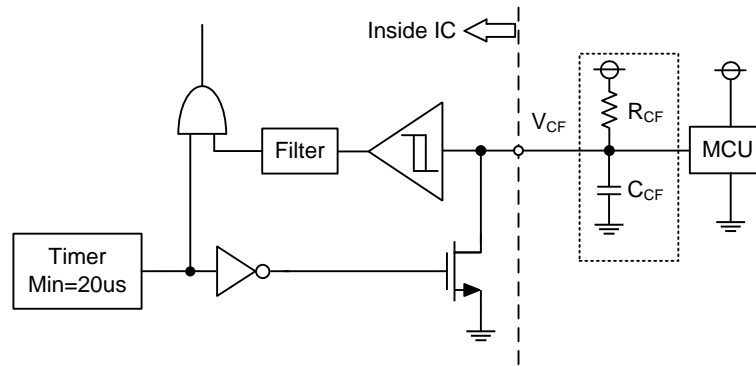

Figure 4. V_{CF} Output Circuit
- (1) If the control GND is connected with the power GND by common broad pattern, it may cause malfunction by power GND fluctuation. It is recommended to connect the control GND and power GND at a single point (N1), near the terminal of the shunt resistor.
- (2) There are two COM pins in the IPM but it is recommended to only use the (15) COM pin to minimize SC detection noise.
- (3) A zener diode D1 (24V/1W) is recommended between each pair of control supply pins to prevent surge destruction.
- (4) Prevention of surge destruction can further be improved by placing the bus capacitor as close to pin P and N1 as possible. Generally a 0.1-0.22 μ F snubber capacitor C3 between the P-N1 terminals is recommended.
- (5) Selection of the R1*C4 filter components for short-circuit protection is recommended to have tight tolerance, and is temperature-compensated type. The R1*C4 time constant should be set such that SC current is shut down within 2 μ s; (typically 1.5-2 μ s). R1 and C4 should be placed as close as possible to the C_{SC} pin. SC interrupting time may vary with layout patterns and components selection, therefore thorough evaluation in the system is necessary.
- (6) NTC signal line should be pull up to the positive side of the 5V/3.3V logic power supply with a proper resistor R2.
- (7) To prevent malfunction, traces A, B, and C should be as short as possible.
- (8) It is recommended that all capacitors are mounted as close to the IPM as possible. (C1: electrolytic type with good temperature and frequency characteristics. C2: ceramic type with 0.1-2 μ F, good temperature, frequency and DC bias characteristics.)
- (9) Input drives are active-high. There is a minimum 3.5k Ω pull-down resistor in the input circuit of IC. To prevent malfunction, the layout to each input should be as short as possible. When using RC coupling circuit, make sure the input signal levels meet the required turn-on and turn-off threshold voltages.
- (10) V_{CF} output is open drain type. It should be pulled up to MCU or control power supply (max= 5 \pm 0.5V), limiting the current (I_{CF}) to no more than 1mA. I_{CF} is estimated roughly by the formula of control power supply voltage divided by the pull-up resistor R3. For example, if control supply is 5V, a 10k Ω (over 5k Ω) pull-up resistor R3 is recommended.
- (11) If only a pull-up resistor R3 of 10k Ω connected to V_{CF} pin, the fault output pulse width is fixed at minimum 20 μ s. If a capacitor C5 is connected with a pull-up resistor R3, the fault output pulse width can be controlled according to the resistor value and capacitor value. For the design guide, please refer to the Figure 4.
- (12) Direct drive of the IPM from the MCU is possible without having to use opto-coupler or isolation transformer.
- (13) The IPM may malfunction and erroneous operations may occur if high frequency noise is superimposed to the supply line. To avoid such problems, line ripple voltage is recommended to have $dV/dt \leq \pm 1V/\mu s$, and $V_{ripple} \leq 2V_{p-p}$.
- (14) It is not recommended to use the IPM to drive the same load in parallel with another IPM or inverter types.